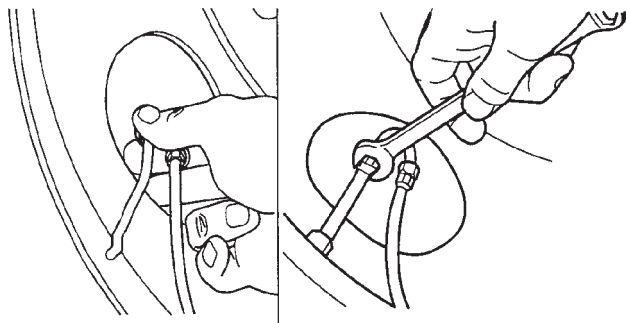

Figure 49: Reattaching tire hoses to tire valve stem
6. **Attach** tire hose(s) to tire valve stem(s) and tighten finger tight (Figure 49).